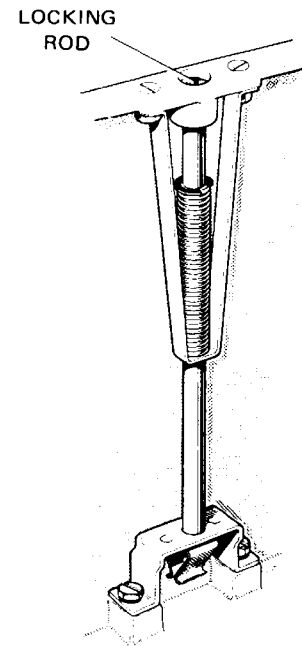

Fig. 2.1 COVER SECURING ROD
- 2.3 Refer to fig. 2.1. Remove the flat cardboard fitting, Item 1 covering the machine.
- 2.9. Open the hinged top of the cover to gain access to the two spring loaded locking rods Fig. 2.1 which secure the cover to the base tray. Turn each locking rod a quarter of a turn to disengage the cover and lift the cover clear of the machine.
- 2.23 Replace the cover and secure it with the two locking rods Fig. 2.1. These should be turned so that the slot is parallel with the side of the cover, then pushed straight down.